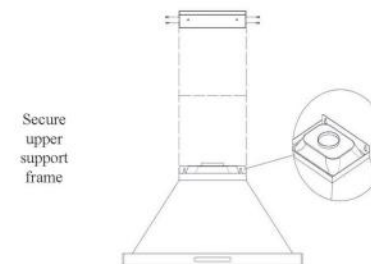

Figure 4
6. Fasten two Type "A" anchors (for range hood and for mounting bracket or air diverter) on the wall as shown in Figure 4. Loosely fasten two Type "B" screws onto anchors, DO NOT fasten screws all the way. Hang the range hood on the Type "B" screws and hand tighten them. Leave approximately 1/8" of gap from the wall to the range hood.